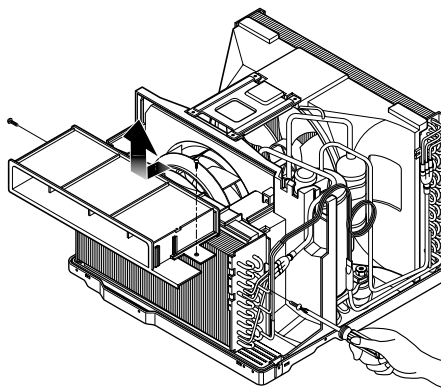

Figure 27
7. Re-install the components by referring to notes. (See Figure 27)